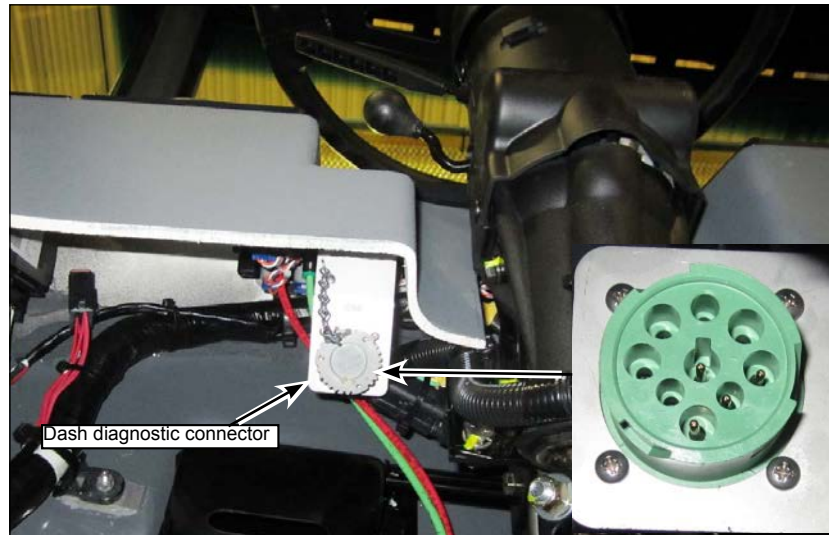

Figure 27 - Install Dash Diagnostic Connector
- 1.28. Reinstall the dash diagnostic connector using the four nuts and screws that secure it to the bracket (see Figure 27).